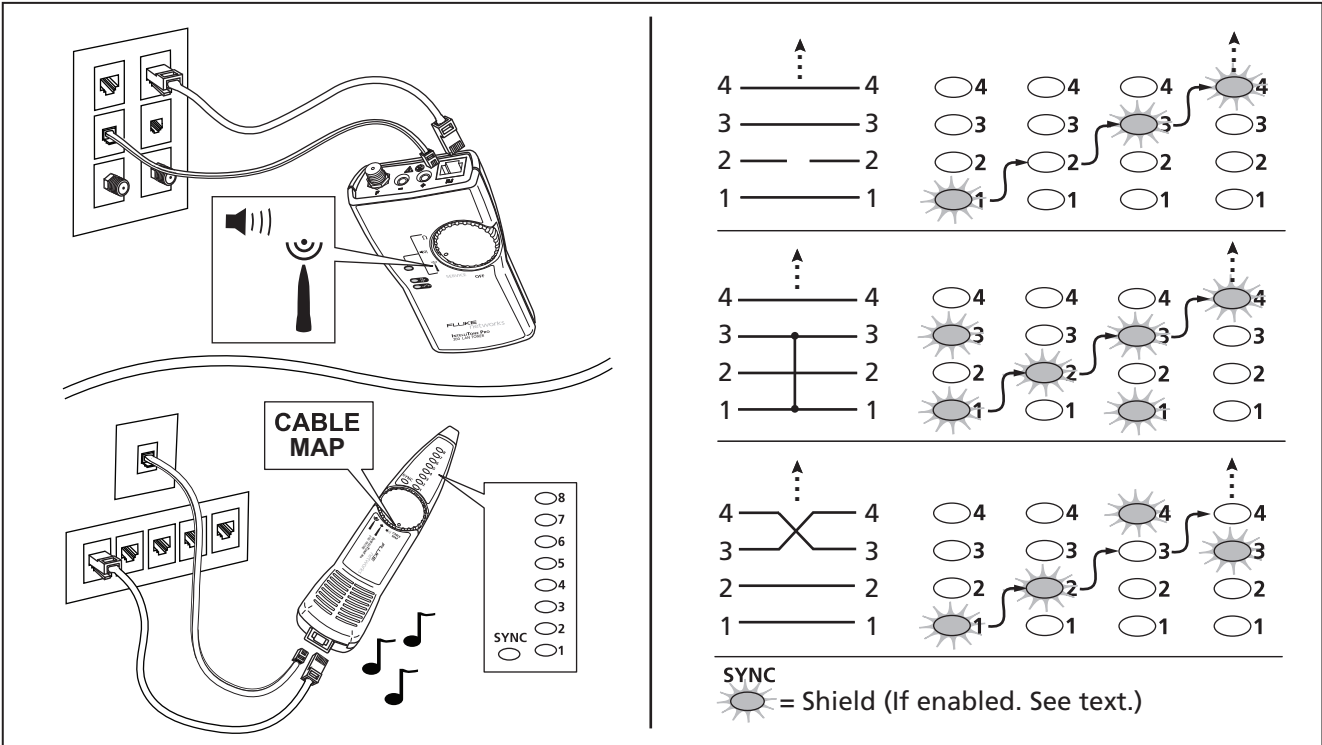

Figure 2. Validating Cable Maps
- 1 Connect an IT200 toner to a RJ11 or RJ45 jack, as shown in Figure 2.